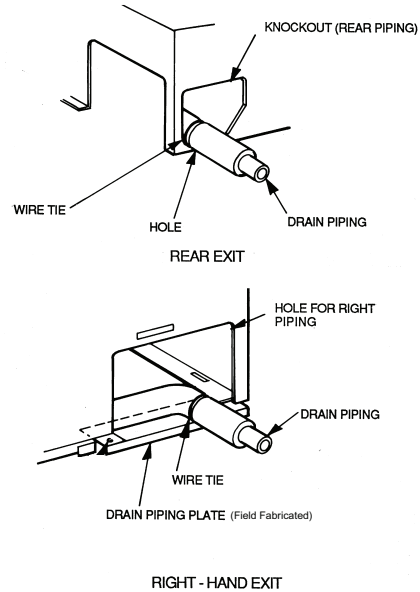

Fig. 23 - Routing Drain Piping
Observe all local sanitary codes when installing condensate drains. Refer to Fig. 23 for drain pipe connection from indoor unit.
3. If the drain piping is routed through the side of the unit, attach a field fabricated piece of sheet metal to support the drain pipe as shown in Fig. 23.
4. Attach drain pipe with nylon wire tie passing through hole as shown in Fig. 23.